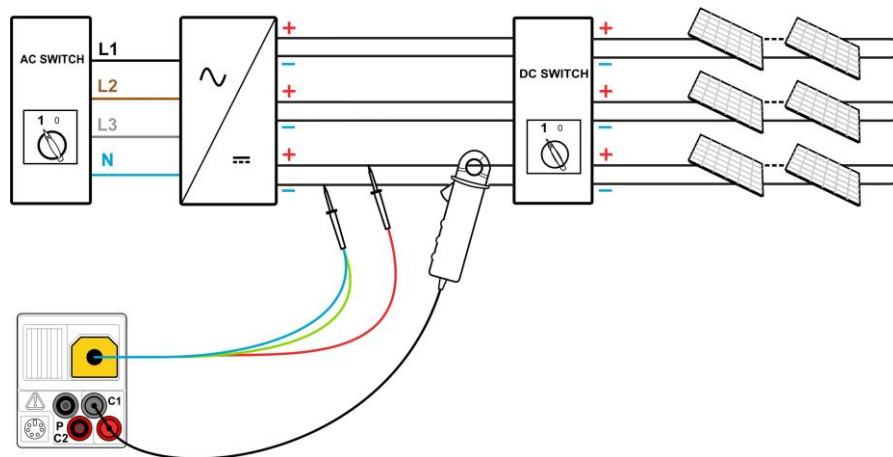

Figure 5.15: Connection with universal PV test lead – DC side
- ❑ **Connect** PV safety probe and current clamp to the instrument (see figures 5.15 to 5.18) or
- ❑ **Connect** accessories to the PV system (see figures 5.15 to 5.19).